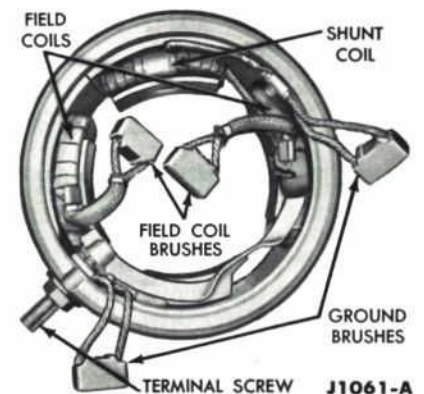

FIG. 52—Field Coil Assembly
2. Position the series field coils with the leads in the terminal screw slot, and the shunt coil as shown in Fig. 52.
farthest from the starter terminal (Fig. 52). The other shunt coil lead is soldered to the series field coil lead farthest from the starter terminal.